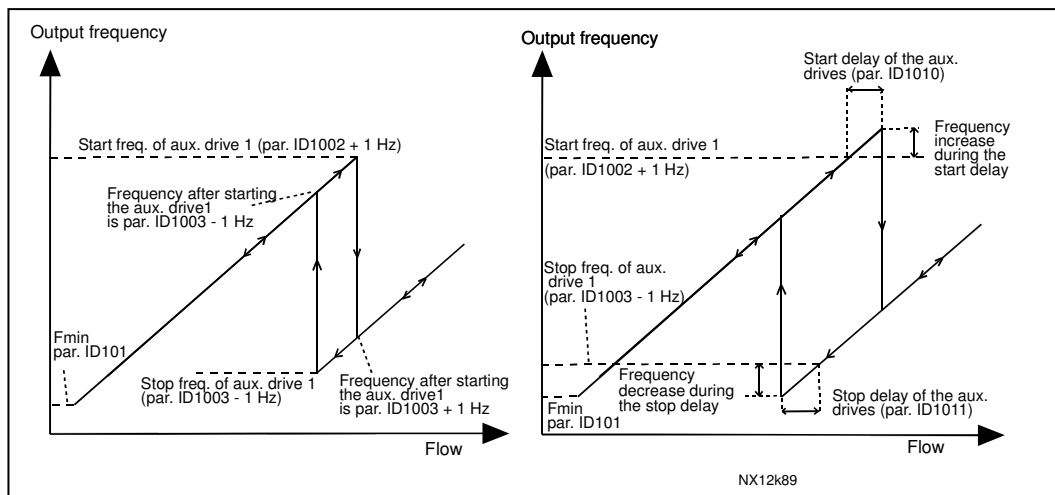

Figure 8-54. Example of parameter setting; Variable speed drive and one auxiliary drive
- The frequency of the drive controlled by the frequency converter must exceed the limit defined with these parameters with 1 Hz before the auxiliary drive is started. The 1 Hz overdraft makes a hysteresis to avoid unnecessary starts and stops. See Figure 8-54. See also parameters ID101 and ID102, page 121.
- The frequency of the drive controlled by the frequency converter must fall with 1Hz below the limit defined with these parameters before the auxiliary drive is stopped. The stop frequency limit also defines the frequency to which the frequency of the drive controlled by the frequency converter is dropped after starting the auxiliary drive. See Figure 8-54.
- The frequency of the drive controlled by the frequency converter must remain above the start frequency of the auxiliary drive for the time defined with this parameter before the auxiliary drive is started. The delay defined applies to all auxiliary drives. This prevents unnecessary starts caused by momentary start limit exceedings. See Figure 8-54.
- The frequency of the drive controlled by the frequency converter must remain below the stop limit of the auxiliary drive for the time defined with this parameter before the drive is stopped. The delay defined applies to all auxiliary drives. This prevents unnecessary stops caused by momentary falls below the stop limit. See Figure 8-54.